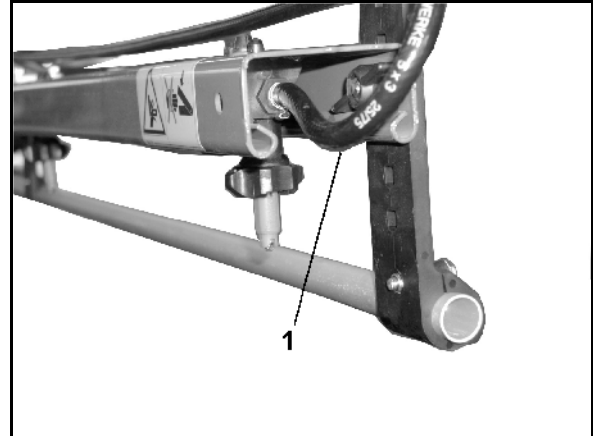

Fig. 105
- enables the constant circulation of liquid in the spray line. For these purposes, a suction port hose (Fig. 105/1) is assigned to each part width section.
- one suction port hose (Fig. 105/1) per part width section.